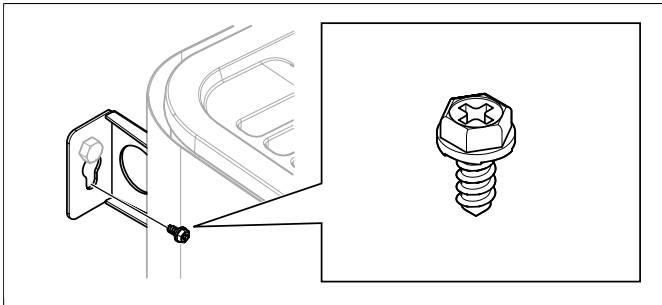

Figure 11: Lock screw for bracket
9. Lock the heater into place with the lock screw see **Figure 11**, Page 5.